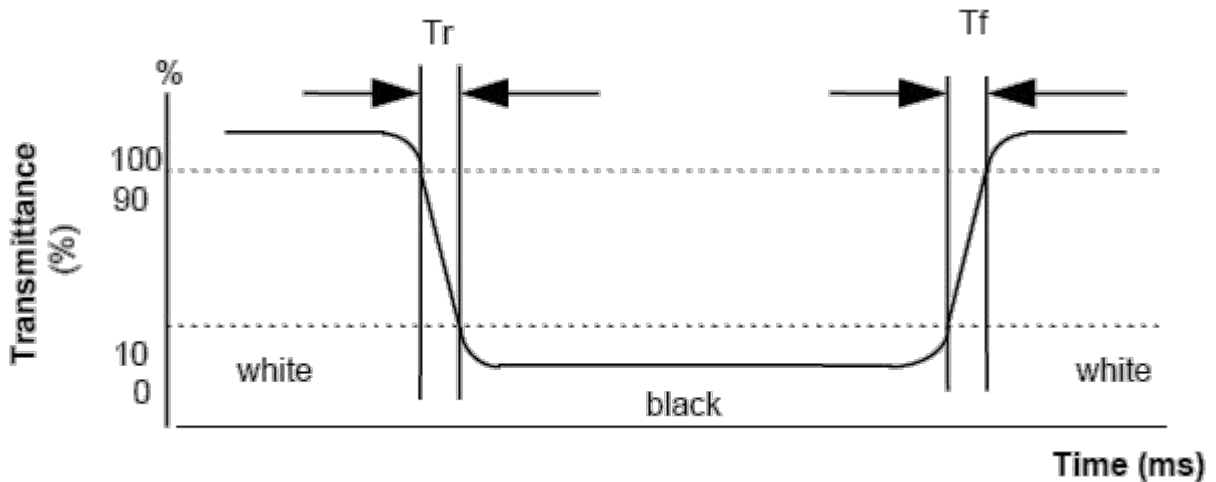

## FIG. 2 The definition of Response Time
3. Response time is the time required for the display to transition from white to black (Rising Time,  $T_r$ ) and from black to white (Falling Time,  $T_f$ ). For additional information see FIG 2.